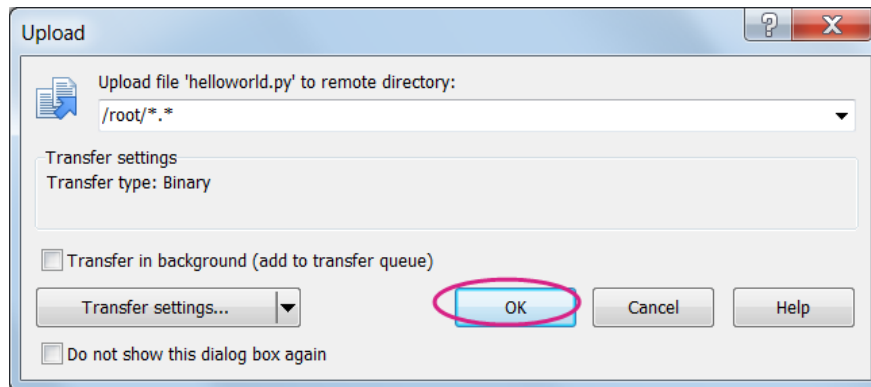

Figure 36 File transfer confirmation
- d) After you've dragged the file, an Upload window will appear as shown in Figure 36 asking you to confirm the upload. Click **OK**.